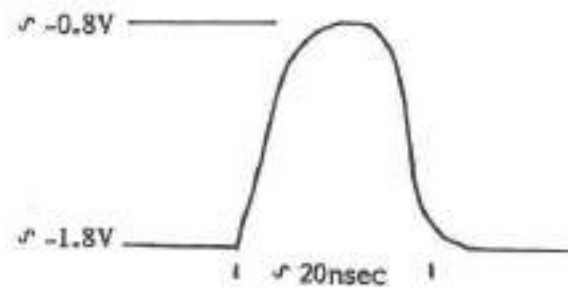

Figure 7-5. PPM Sync Output Scope Display
2. The Scope display should look similar to Figure 7-5, below.